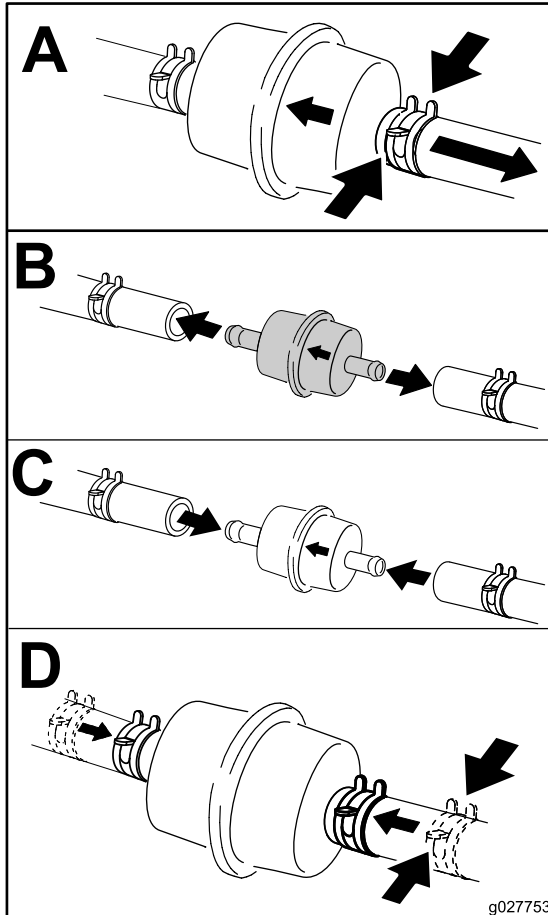

Figure 39
3. Replace the in-line filter (Figure 39).